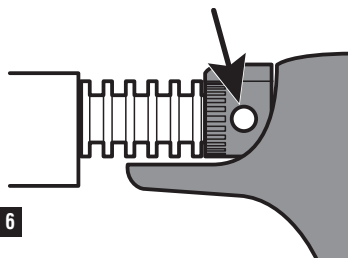

FIG. 6
- Open the Air Control Knob by aligning it as shown in Figure 6.